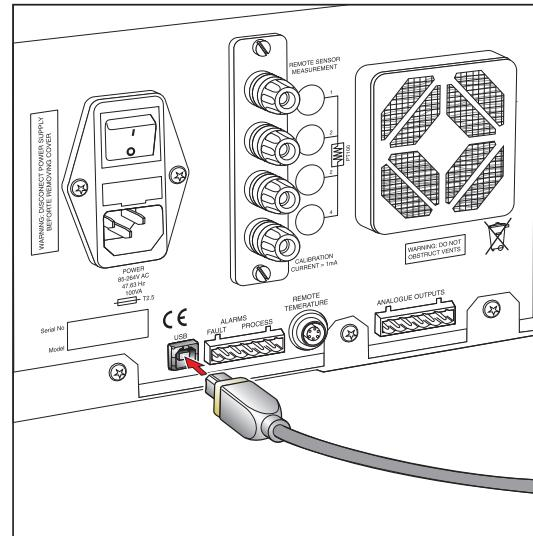

Figure 12 USB Port Connection
1. Check the orientation of the connector and gently push it into the socket labelled **USB** (see *Figure 12*).